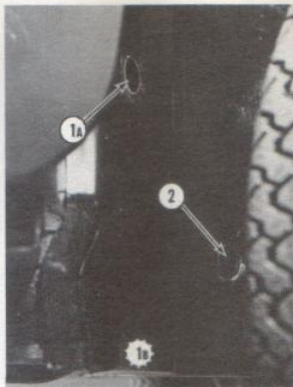

fig. 28
- Anti-roll bar bearings 2 fig. 28	Chassis Grease